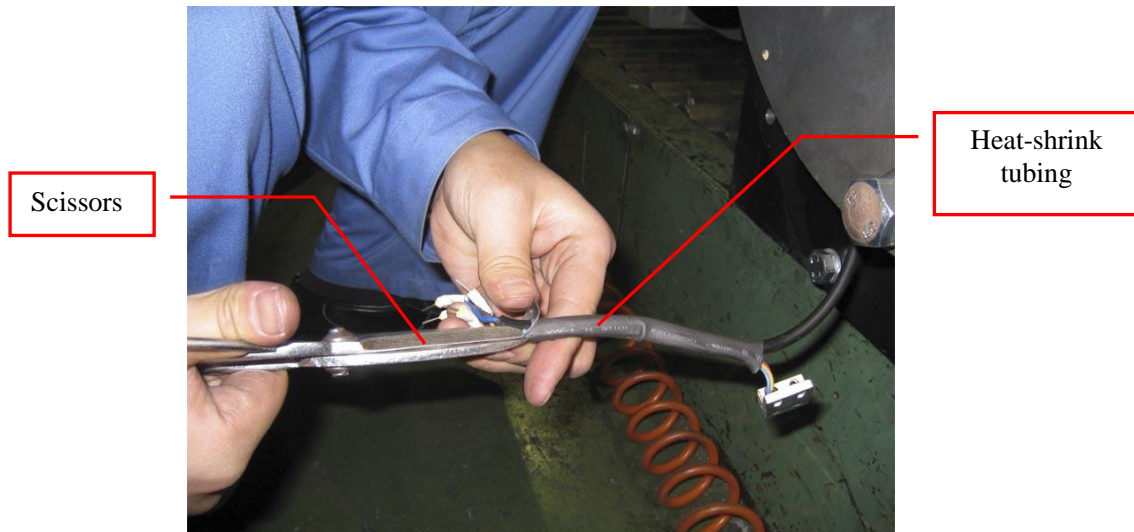

Figure 23: Heat-shrink tubing removal
4. Cut off the heat shrink tubing which protects the brake cable using scissors. See Figure 23.